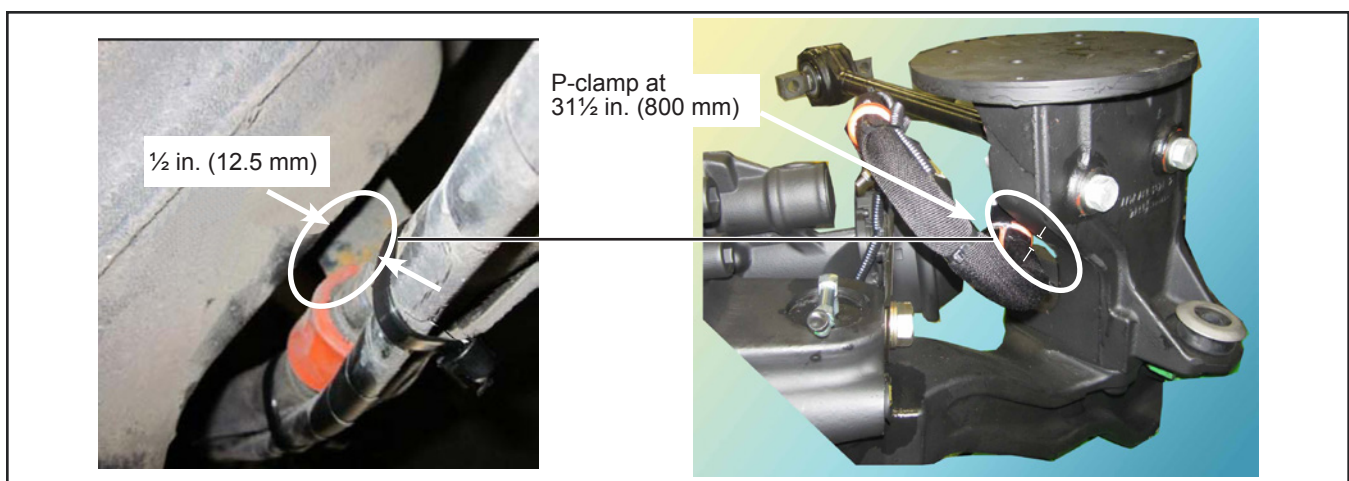

Figure 10 - Space Between the Brake Hose and the Axle
- 2.12. Adjust the positioning of the P-clamp at the 31½ in. (800 mm) position, to obtain a minimal distance of ½ in. (12.5 mm) between the hose and the axle. See Figure 10.